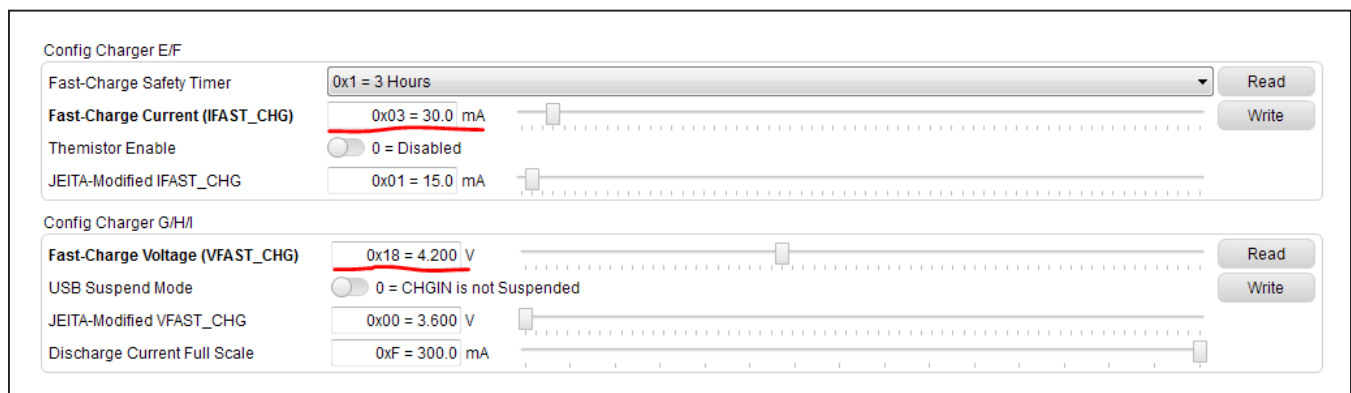

Figure 4. Quick Configuration of the Charger
- 13) In the GUI, set the VFAST\_CHG register to 4.2V, set the IFAST\_CHG register to some current that is safe for your battery (i.e., 30mA for a 45mAh cell). See Figure 4.